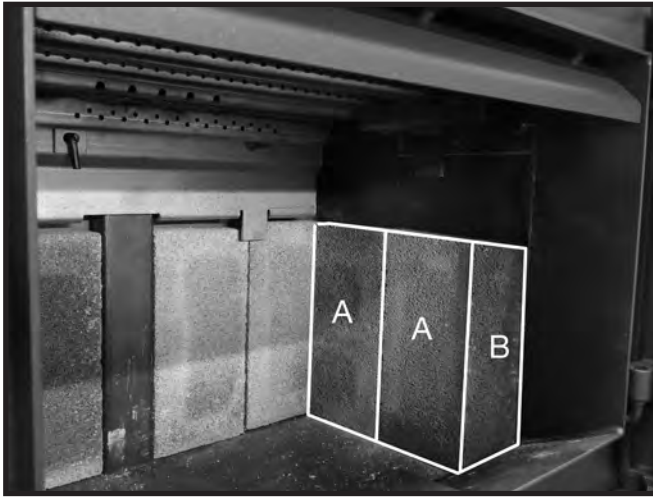

Figure 22: Lower side wall firebricks in place.
5. Stand another "A" brick beside the first one followed by a narrow "B" firebrick (Figure 22).